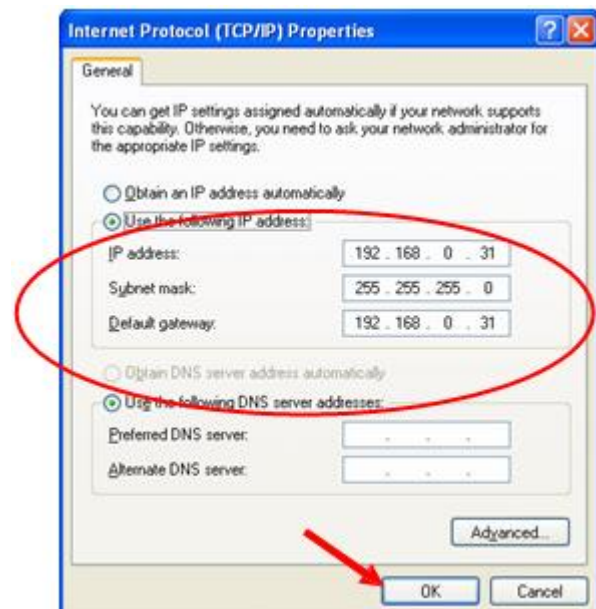

Figure 1
7. Enter the values in Figure 1